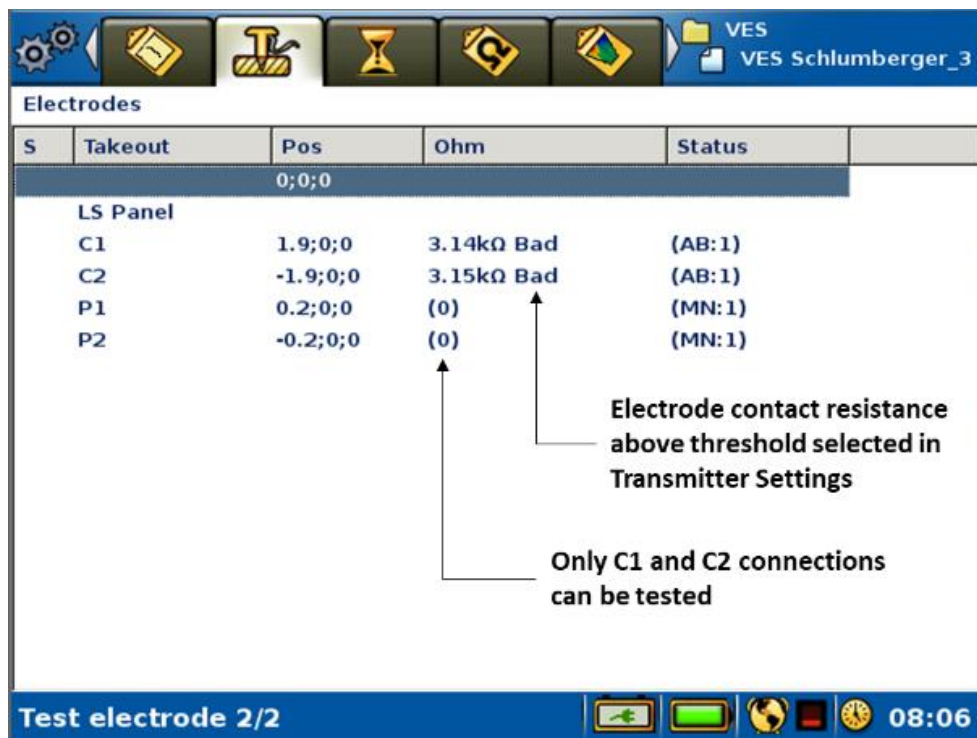

Figure 59 Electrode test results on Electrodes Page
Go to the *Electrodes Page* (Figure 59) by pressing <Shift> + <Browse> to navigate one tab left. This tab provides a table detailing the connection point for each electrode (“Takeout”), the electrode locations (“Pos”) and the results of the electrode contact test (“Ohm”). The “Status” column describes how often each electrode will be used as a current injector (AB) or potential pair (MN) during the next round of measurements; as this is a VES survey, they are only used once during the active measurement .